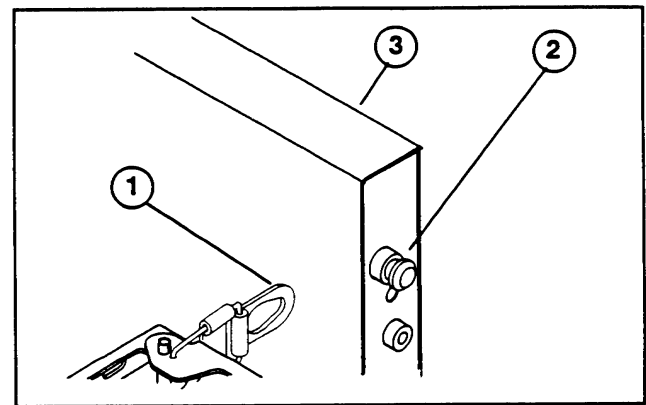

Figure 6
12. Open tailgate latch assemblies and hook latch plates over upper tailgate pins on both sides (Fig. 6).